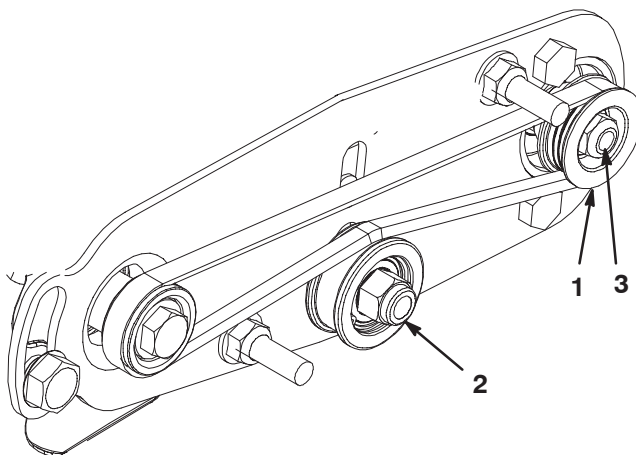

Figure 35
1. The driven pulley (at roller brush shaft) can move in or out (Fig. 35). Make note of which way the pulley needs to move.
2. Loosen the idler pulley nut, releasing the belt tension (Fig. 35). Do not remove the nut. Remove the belt.
3. Remove the lock nut securing the driven pulley to the brush shaft (Fig. 35 or 36). Put a 1/2 inch wrench on the roller brush shaft flats to keep it from rotating.